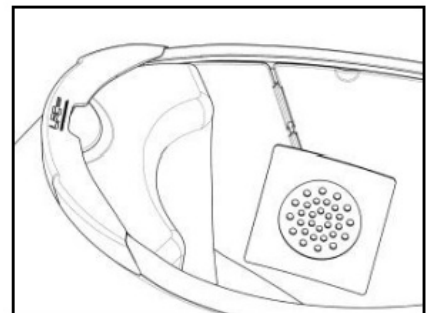

Fig. 29
- Position the right-hand side speaker in the specific cheek pad housing and secure it using the specific adhesive (Fig. 29).